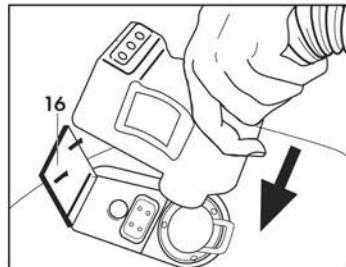

Fig. 6
Close the accessories socket door (16) against the body of the quick connection and ensure that the two parts latch onto each other. **(Fig. 6)**